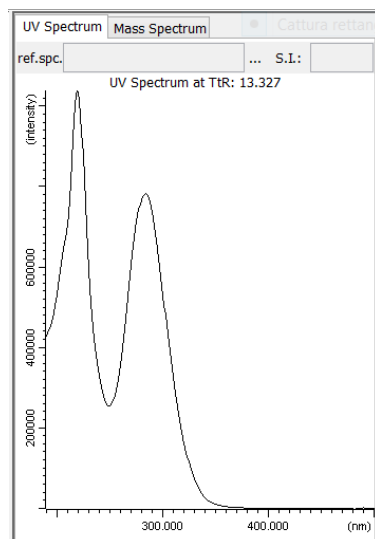

Figure 12.13: The UV spectrum at the top of the main Blob
7. Move the mouse in the Map View: the Spectrum View will show the UV spectrum of the point corresponding to the current mouse position. The spectrum is represented as a *black* line. The Figure 12.13 shows the UV spectrum at the top of the main Blob (Retention Time = 13.327).